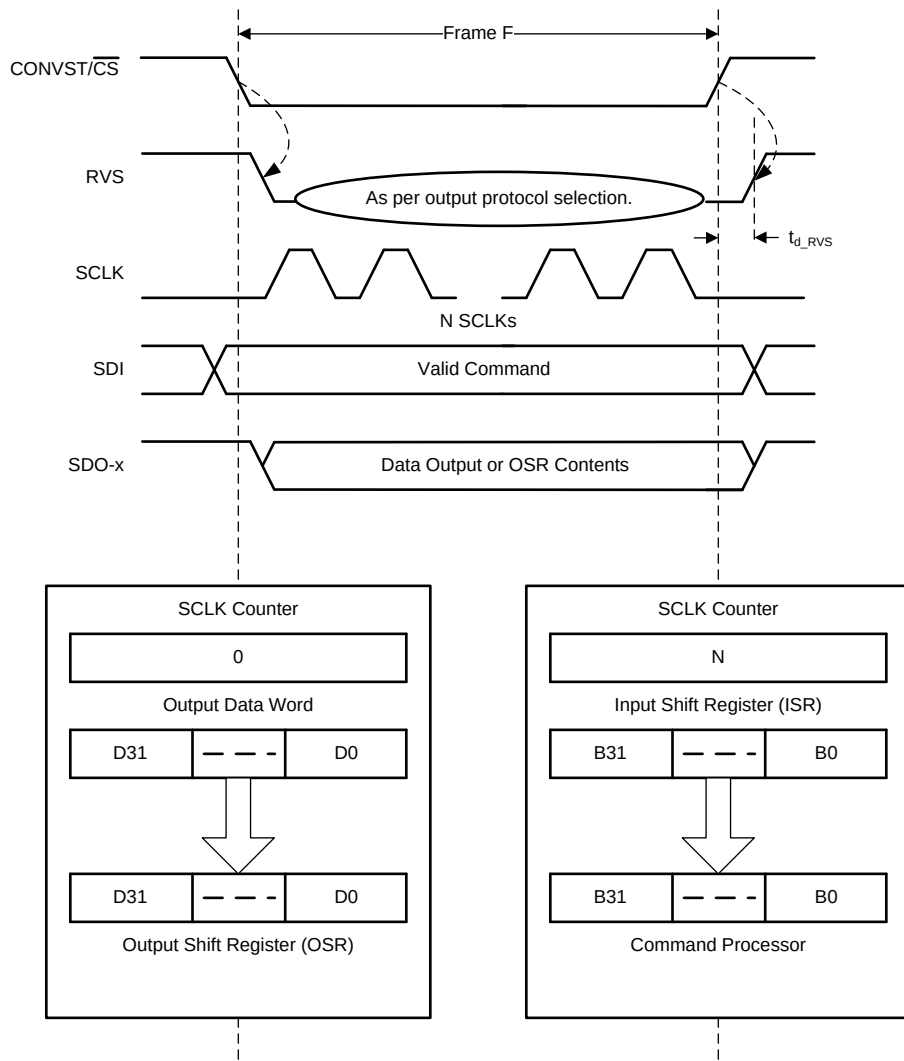

Figure 70. Data Transfer Frame
A data transfer frame between the device and the host controller begins at the falling edge of the CONVST/ $\overline{\text{CS}}$ pin and ends when the device starts conversion at the subsequent rising edge. The host controller can initiate a data transfer frame by bringing the CONVST/ $\overline{\text{CS}}$ signal low (as shown in Figure 70) after the end of the CONV phase, as described in the CONV State section.
- The device takes control of the data bus. As illustrated in Figure 70, the contents of the output data word are loaded into the 32-bit output shift register (OSR).
- As illustrated in Figure 70, the contents of the input shift register are transferred to the command processor for decoding and further action.